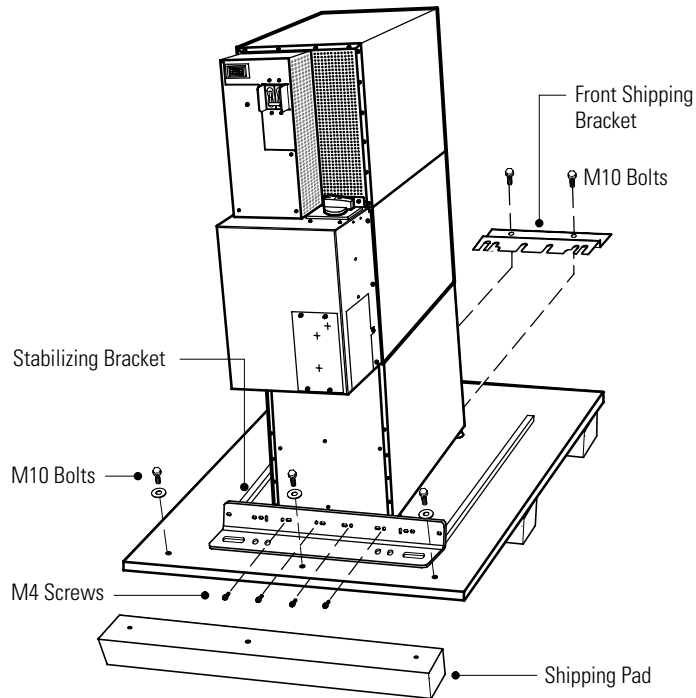

Figure 3. Removing the Brackets and Shipping Pad
2. Remove the four M4 screws securing the stabilizing bracket to the cabinet rear panel and remove the bracket (see Figure 3). Retain the hardware for later use.